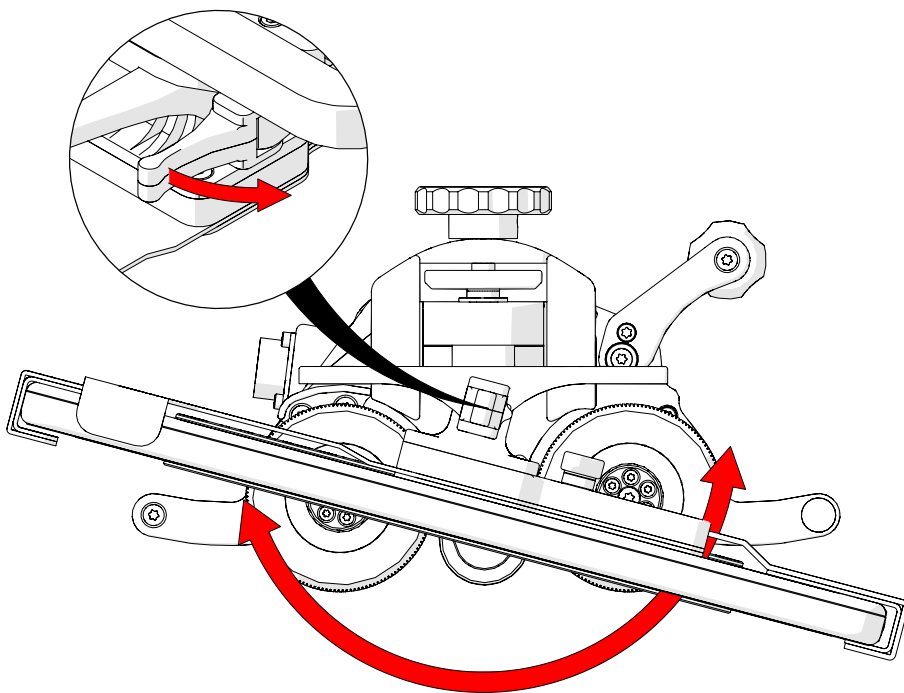

Fig. 40 - Loosen lever and pivot
1. Loosen the lever to pivot the detector as required. Tighten the lever to lock the detector in place (Fig. 40).